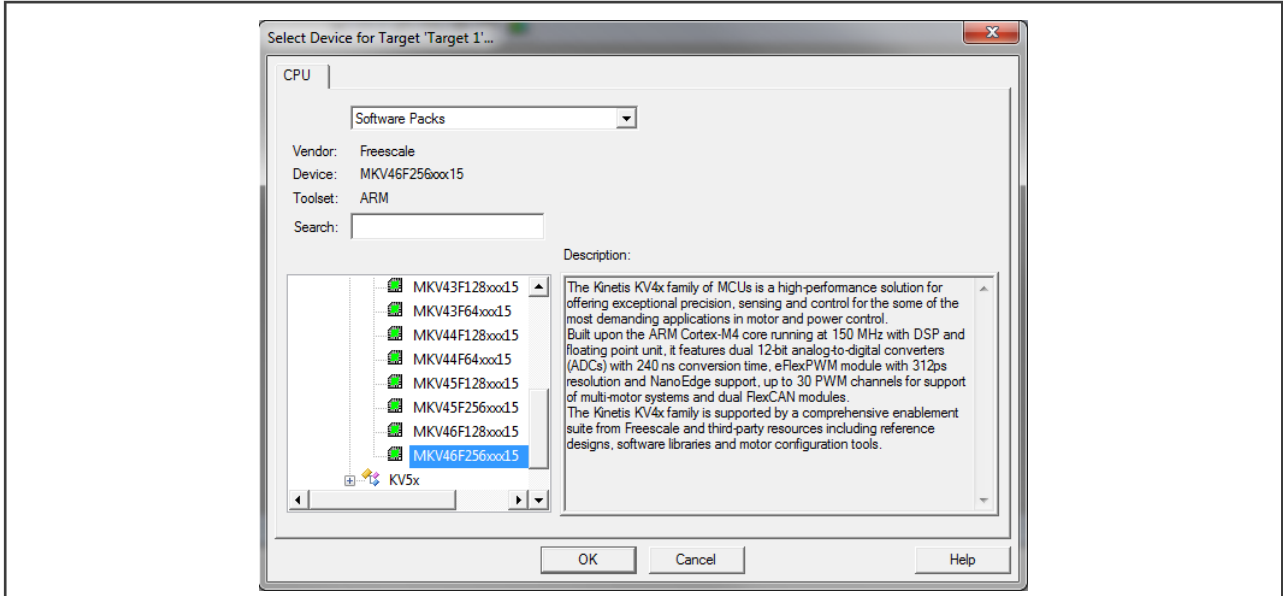

Figure 7. Select Device dialog
- Click the MKV46F256xxx15 node, and then click OK. See Figure 7.